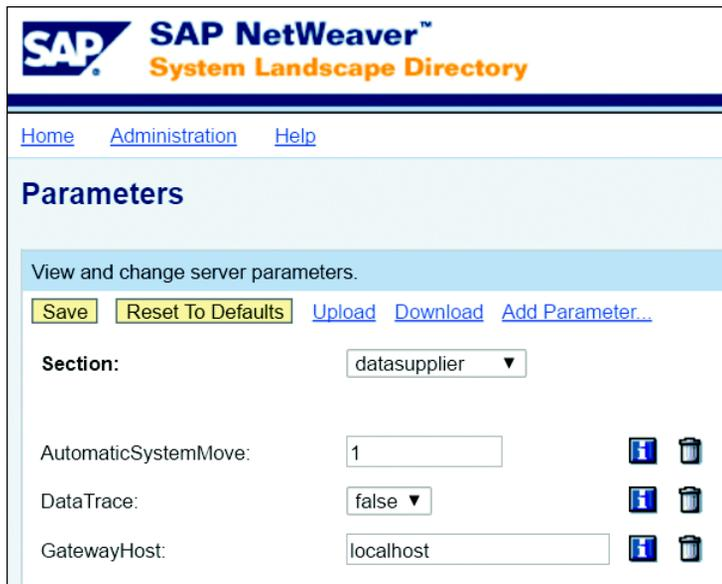

Figure 9 SLD Automatic System Move Parameter Set to 1
- » In the SLD, under the ADMINISTRATION section under PROFILE, set the parameter AUTOMATICSYSTEMMOVE to 1 in the section DATASUPPLIER (see Figure 9). See SAP Note 1817310 - Double Stack System Automatic Move Functionality for additional information.